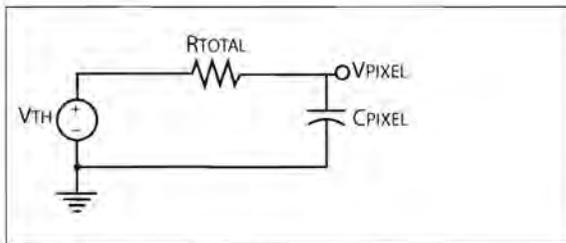

Figure 4: Voltage charge across pixel
**Figure 4** indicates that the time required for the voltage across the pixel to change from 0 to  $V_{TH}$  will depend on the capacitance of the pixel and the total resistance, of which the Thevenin resistance of the resistor ladder forms the most significant part. The step response of the voltage across a pixel is subject to the following equation: